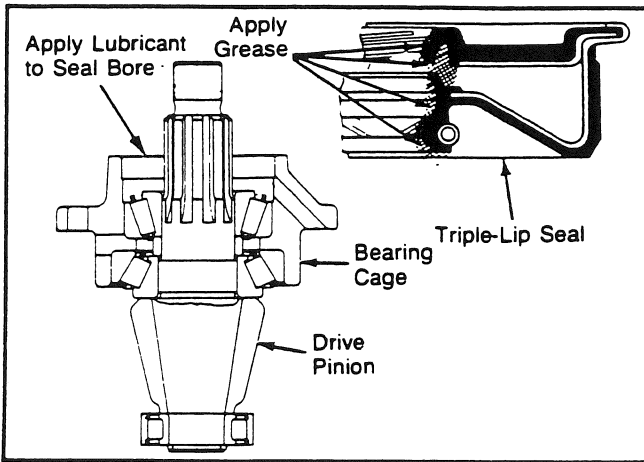

Fig. 41
8. Apply system oil to the outside diameter of the oil seal and the seal bore in the bearing cage. Install the seal. Make sure the seal lips are clean and free from particles that could cause a leak between the yoke and the seal. Apply wheel bearing grease to the seal lips (see Fig. 41).